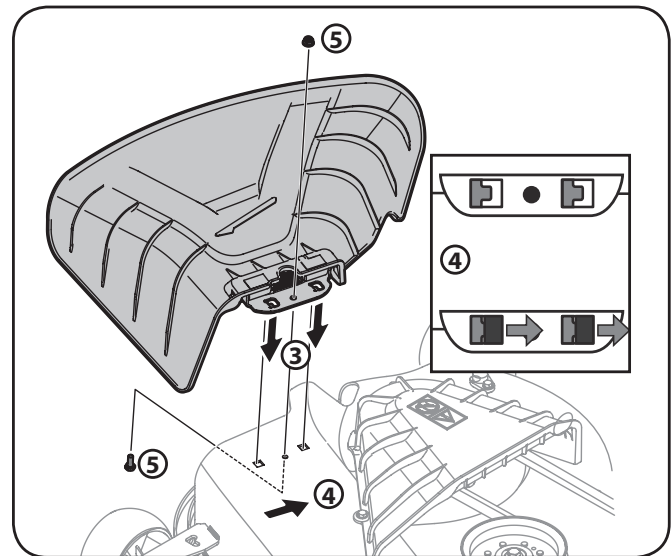
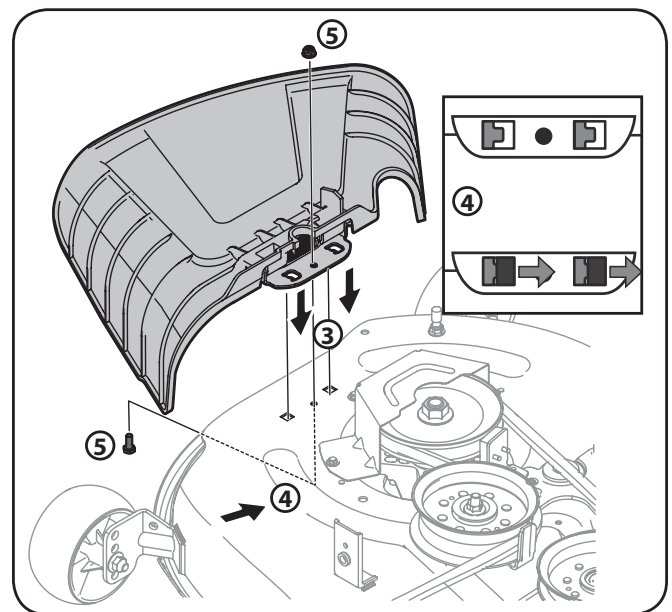

Figure 3-5 (50"/54")
Figure 3-6 (42")
3. Place the chute deflector on the deck, be sure to insert the tabs on the chute deflector into the holes on the deck. See Figure 3-5 for 50/54" decks and Figure 3-6 for 42" decks.
4. When the tabs are installed in the deck, slide the chute deflector toward the rear of the tractor until the bolt hole in the chute deflector aligns with the hole in the deck. See Figure 3-5/Figure 3-6.
5. Secure the chute deflector in place with the flange lock nut and hex screw removed in step 2. Tighten to 102-124 in-lbs. See Figure 3-5/Figure 3-6.